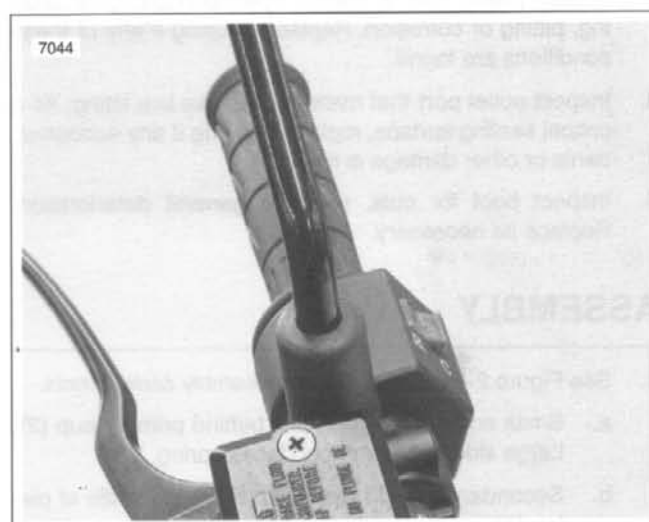

Figure 2-66. Mirror Installation
4. See Figure 2-66. Install mirror parallel to handlebars.